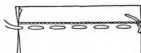

FIGURE 75
*Plain Seam* (Figure 75). — This seam has two raw edges stitched together by machine or hand.